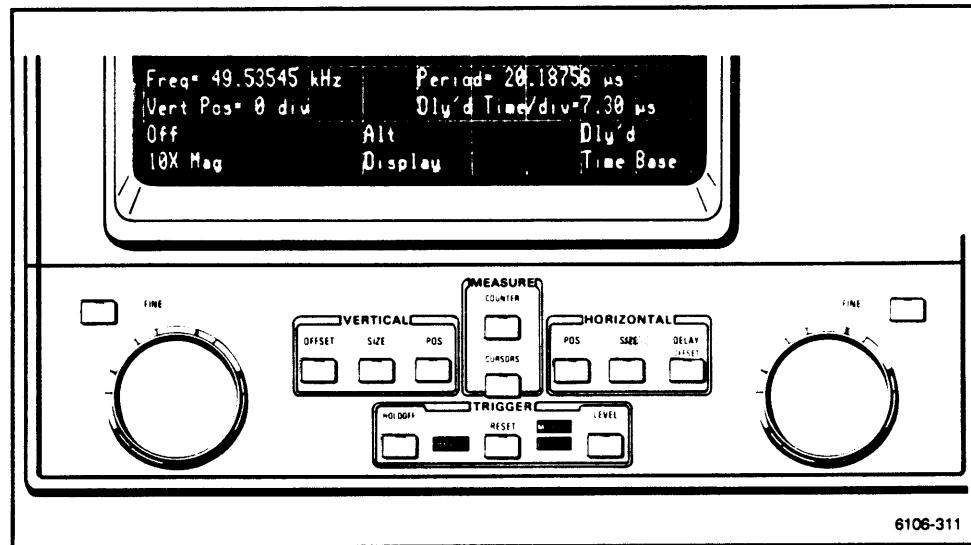

Figure 2-112. Adjusting Dly'd Time/div through HORIZONTAL SIZE menu.
- With the counter engaged, adjust the horizontal size of the delayed time base by pressing HORIZONTAL SIZE and touching the menu until it reads **Dly'd Time Base**. Turn the right knob until the Gate pulse width, which is displayed as **Dly'd Time/div = nnn**, falls within the desired measurement region. (See Fig. 2-112.)